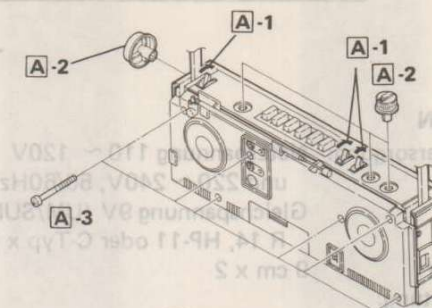

Figure 6-1
- (Refer to Figure 6-1 and 6-2.)
(Se reporter aux Figures 6-1 et 6-2.)